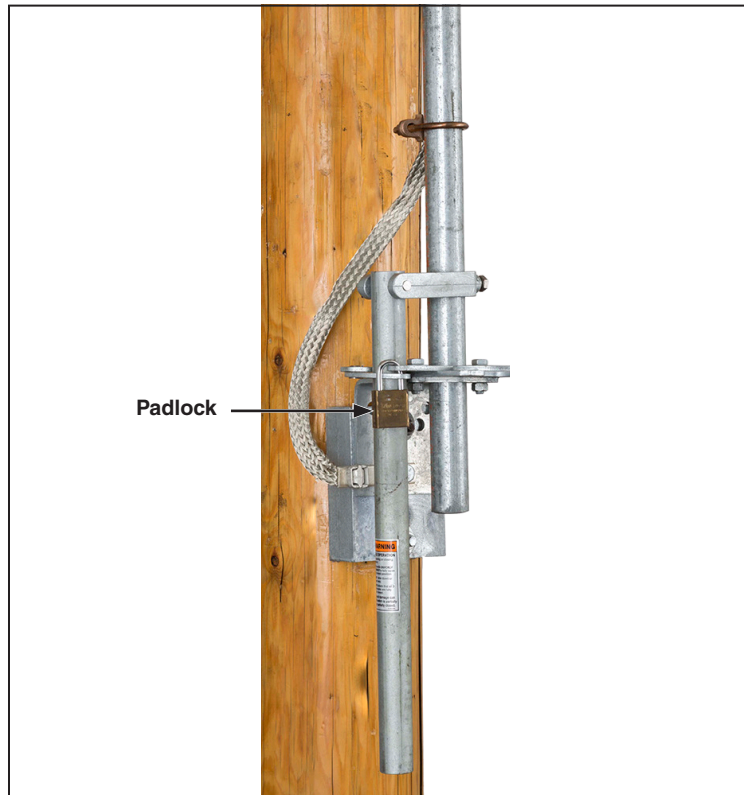

Figure 48. Remove the padlock(s).
- (a) Remove the padlock(s) from the hasps on the operating handle assembly. See Figure 48.